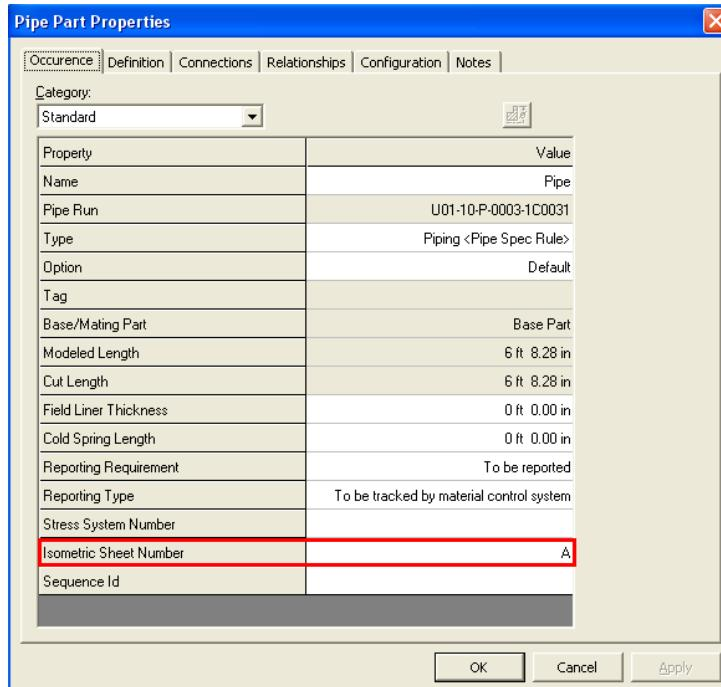

Figure 62: Pipe Part Properties
6. Right-click the selected pipe and open the properties dialog box re-assign it to isometric sheet number A for creating an isometric drawing. Type A in the **Isometric Sheet Number** box in the **Selection Properties** dialog box, as shown in Figure 62, and click **OK**.